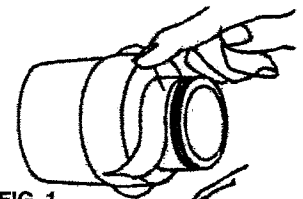

FIG. 1
2. Wrap this paper around the male thread snugly, making sure it is against the shoulder all the way around. At some point where the strip overlaps, pierce through both of the overlapped papers with a pin. (Fig. 1)